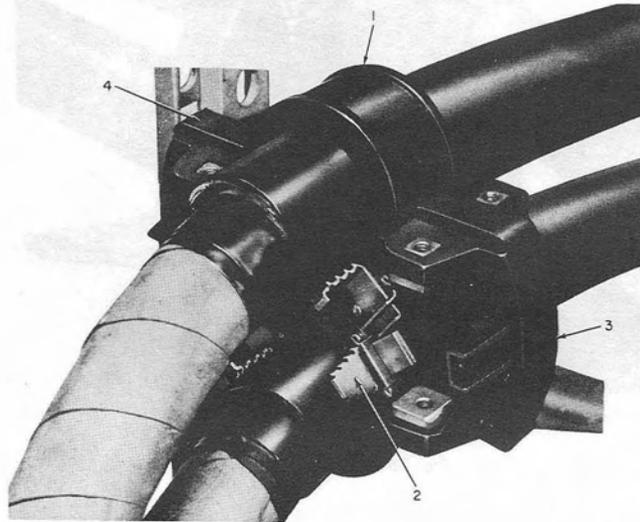

Fig. 25—Placing Midsection of 2-Type 2E End Plate
4.02 Figures 25 through 28 outline procedures for installing double entrance end plate.